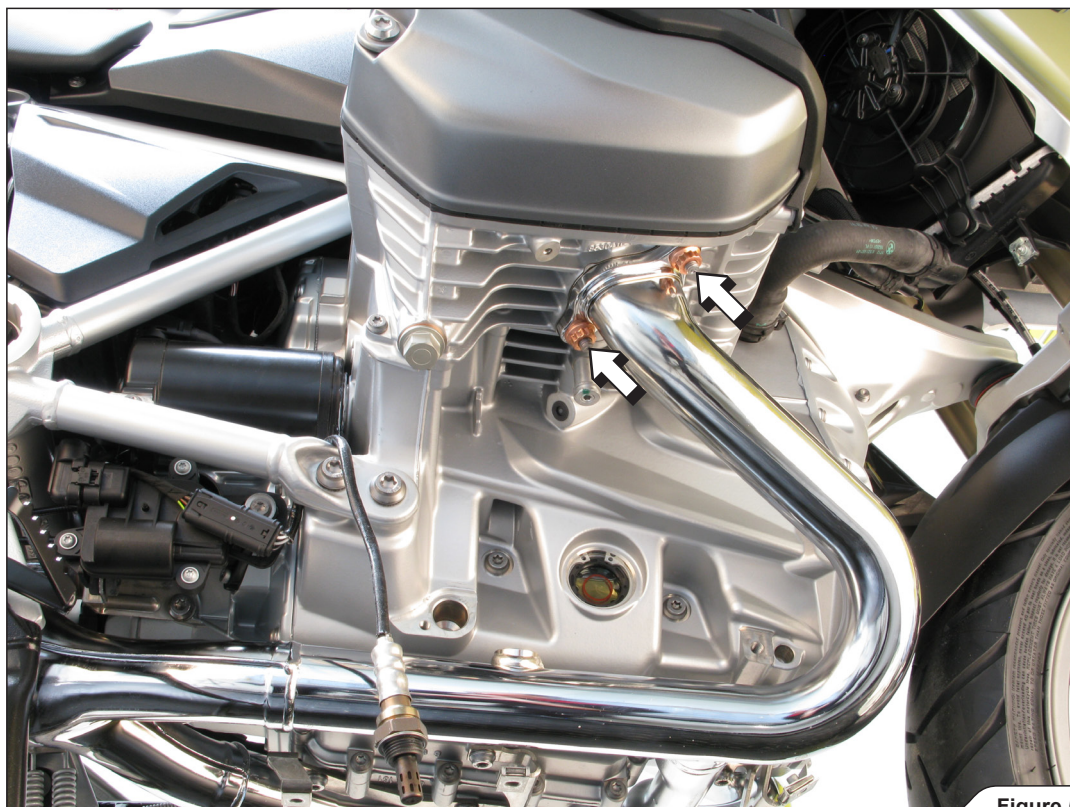

Figure 5
6. Unscrew the marked flange nuts on both sides of the motorcycle and carefully remove the headers off the motorcycle (Figure 5, 6).